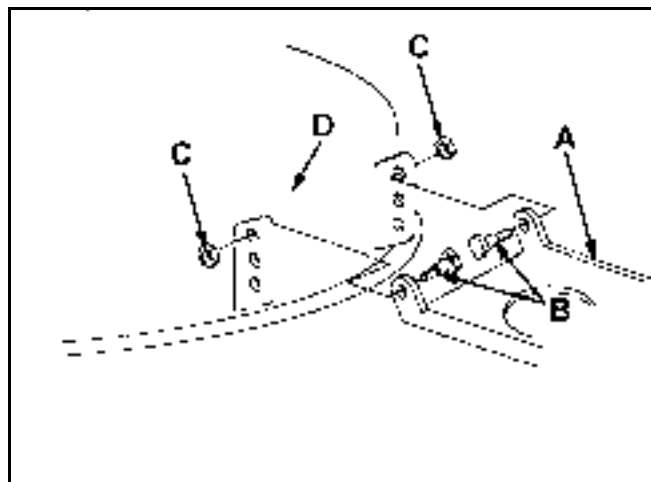

Figure 211
- If the 1/4 to 5/8 in. (6 to 16mm) front slope cannot be achieved by rotating the slope adjusting nut, move the mower pivot mount at the mower (Figure 211).
- Remove the shoulder bolts and locknuts from the mower (Figure 211).
- Lower the mower pivot one hole and install the shoulder bolts and locknuts (Figure 211).